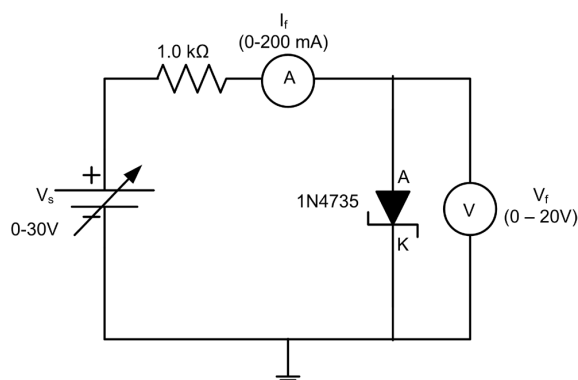

Fig. P16.1: zener diode in forward bias
1. Connect the circuit as shown in Fig. P16.1.